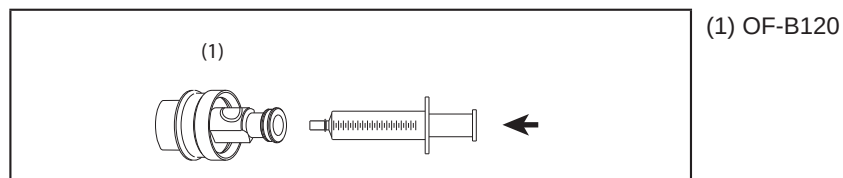

Figure 1.5.10
- 6) Using a syringe filled with water, flush the lumen of water jet check valve adapter (OE-C12) with 5 mL of water. (see Figure 1.5.10, p110)
- 16) Using a syringe filled with air, flush the lumen of water jet check valve adapter (OE-C12) with 5 mL air to purge residual water. (see Figure 1.5.10, p110)
- 7) Using a syringe filled with disinfecting solution, inject 3 mL of disinfecting solution directly into the lumen of the water jet check valve adapter (OE-C12). (see Figure 1.5.10, p110)